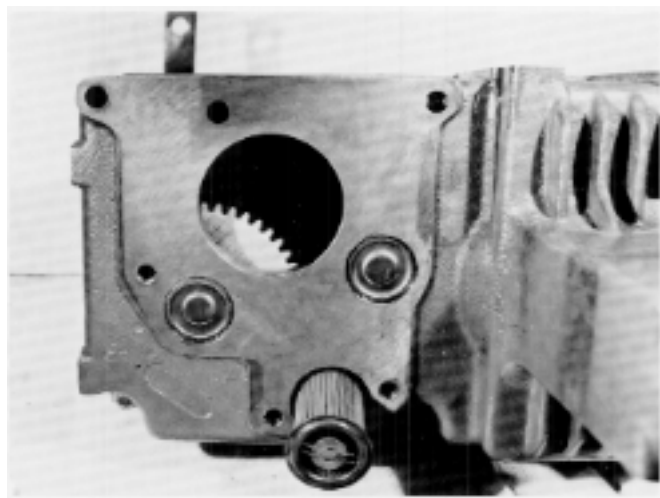

Fig. 5-43 Motor Mounting Area
7. Remove the two lower motor-to-case cap screws which thread into the case. (Ref. Fig. 5-43).
Fig. 5-43 shows the motor mounting area with the intake screen pulled out. The two cap screw holes on each side of the screen and the two top corner holes are for the four bolts which retain the motor to the case.